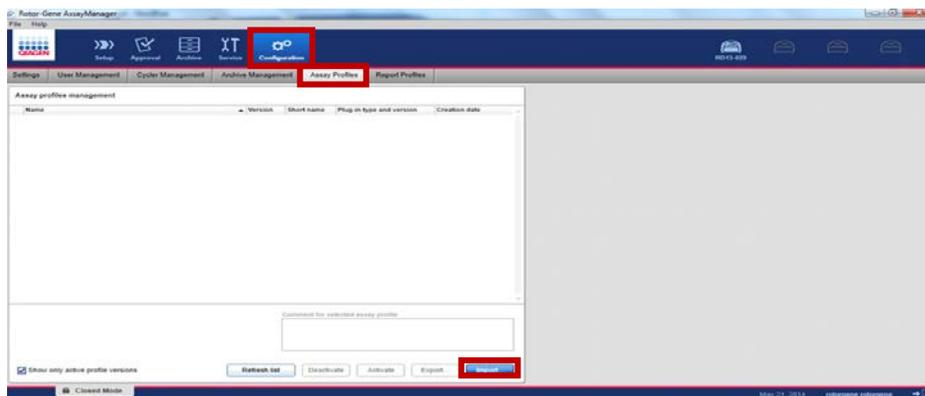

Figure 15. Configuration tab.
7. Select the configuration environment (Figure 15).